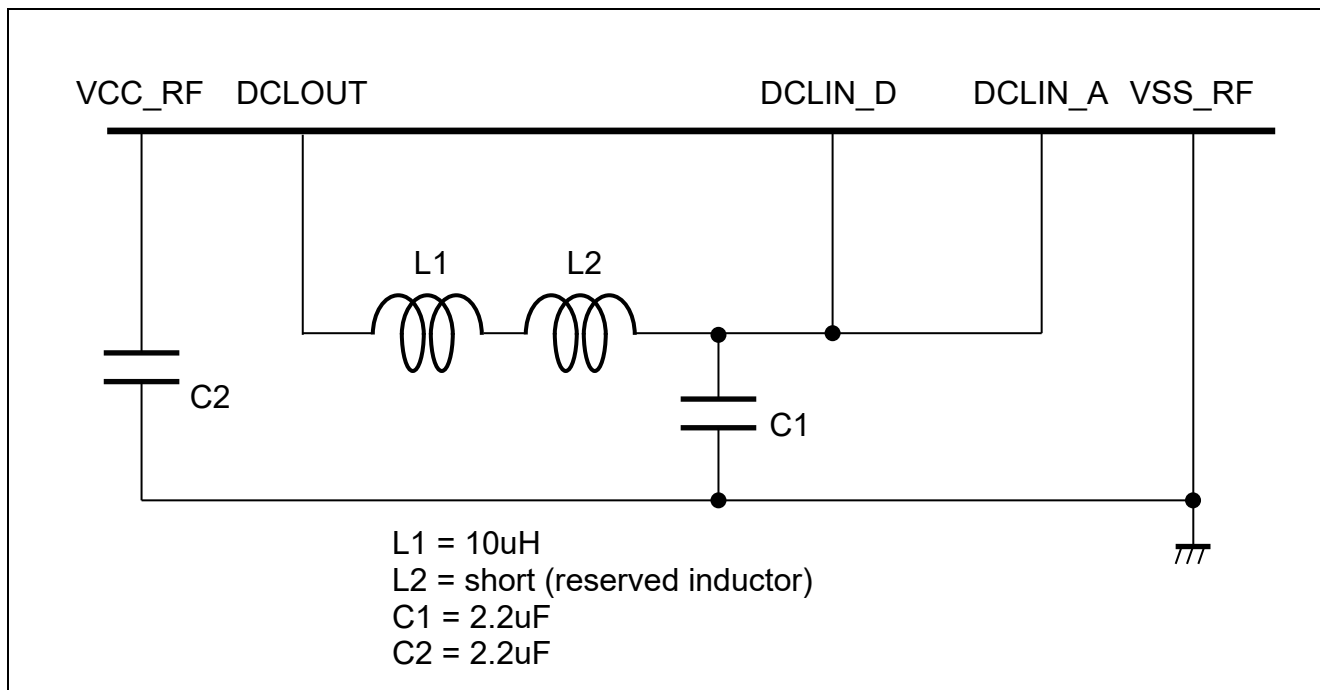
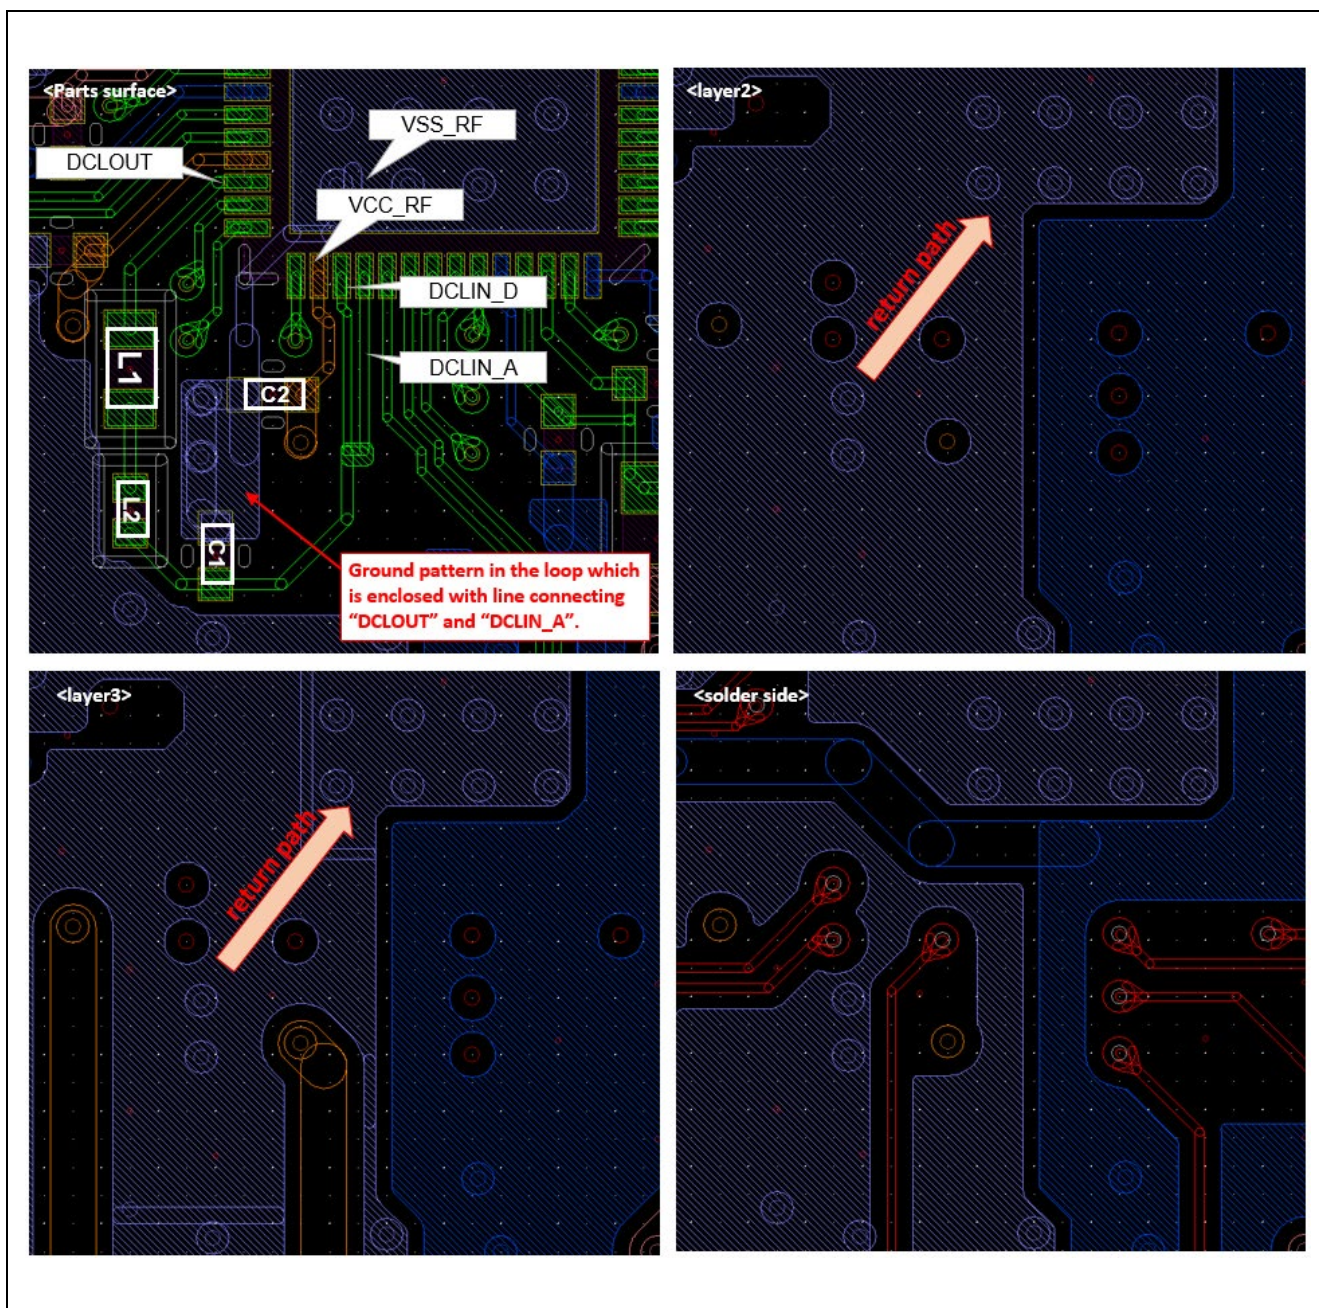

Figure 2-7 Example of the external circuit for DC-DC converter mode
Figure 2-8 Example of the PCB pattern for DC-DC converter mode
- Design the signal pattern from “DCLOUT” pin to “VSS_RF” through an inductor “L1” and a capacitor “C1” shorter and wider for low impedance connection. Place ground pattern in area which is enclosed with line connecting “DCLOUT” and “DCLIN_A”, as shown in "Figure 2-8 Example of the PCB pattern for DC-DC converter mode". In addition, connect a capacitor “C1” and “VSS_RF” to this ground pattern.
- Ensure a return path in layer2 (additional layer3 if possible) from ground in the loop to "Exposed Die Pad (VSS_RF)", as shown in "Figure 2-8 Example of the PCB pattern for DC-DC converter mode".
Figure 2-7 shows an example of the external circuit for DC-DC converter mode, Figure 2-8 shows an example of the PCB pattern.